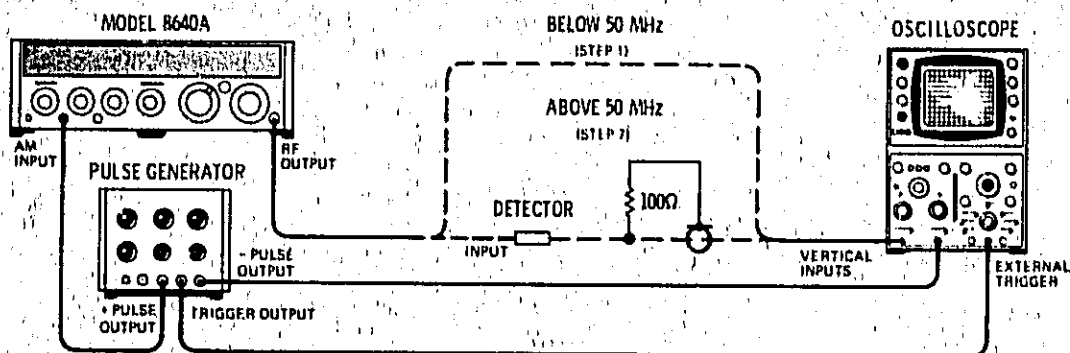

Figure 4-13. Pulse Modulation Test Setup
1. Connect equipment as shown in Figure 4-13, with oscilloscope connected directly to test generator's RF OUTPUT, after setting test Signal Generator's controls as follows:
7. Connect detector and 100Ω detector load to RF OUTPUT as shown in Figure 4-13. Set OUTPUT LEVEL switch to +10 dBm.